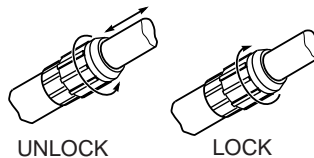

Figure 8 - Extending Telescopic Pole
1. To extend the pole, loosen coupling by turning coupling nut counterclockwise as shown in Figure 8. Pole will slide freely.
3. To lock pole in position, tighten coupling by turning coupling nut clockwise (see Figure 8) until firmly hand tight. Make sure saw handle is aligned with pole handle before tightening coupling nut. **IMPORTANT:** Do not use wrench or pliers to overtighten coupling. Damage to coupling or pole may result.